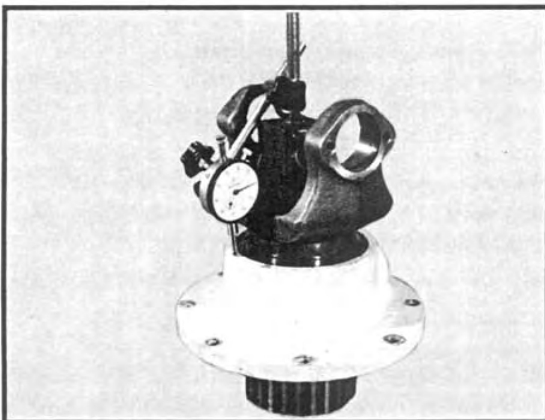

Fig 41
5. Install a dial indicator as depicted in Figure 41. Lift upward on the carrier assembly and note the shaft end float on the dial indicator. If the end float is not within specification (.003 to .008 in.), it will be necessary to disassemble the shaft following Steps 2 and 3 under "FRONT OUTPUT SHAFT DISASSEMBLY" above. Measure the thickness of the original spacer ring and select a new ring to provide end float within specification. See Item 7 on P. 10 in the parts manual for a list of available spacer rings. Be sure to recheck the shaft end float after the new spacer ring is installed.